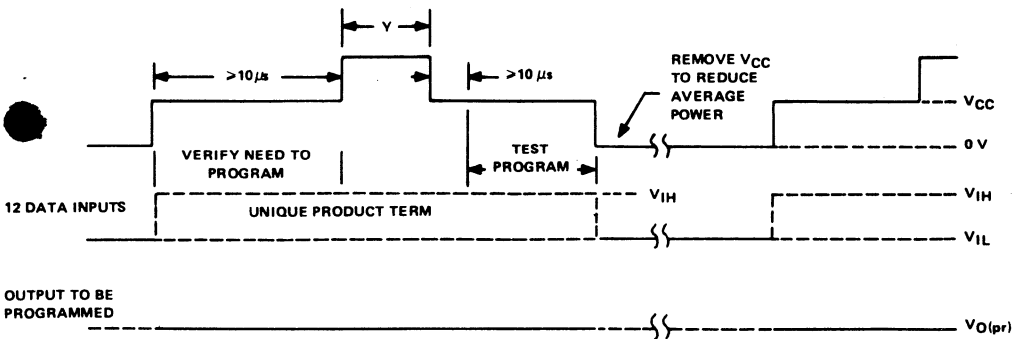

FIGURE 4 – OR TERM PROGRAMMING SEQUENCE
1. Apply steady-state supply voltage ( $V_{CC} = 5\text{ V}$ ) and apply the unique product term. See Figure 4.